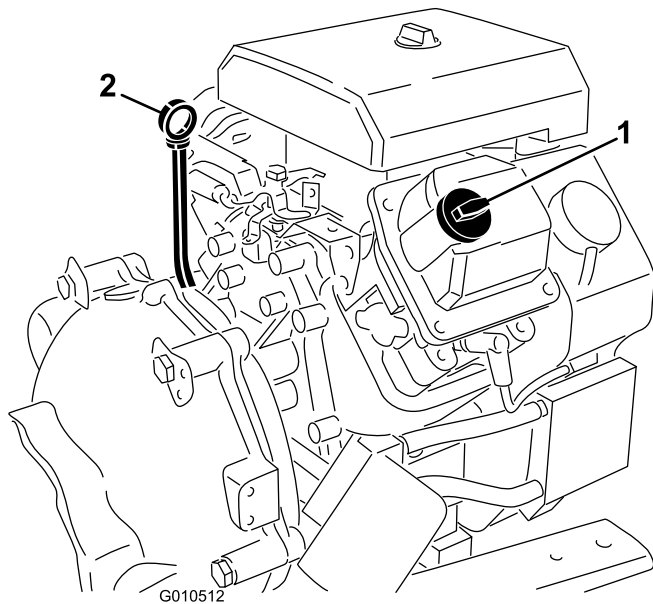

Figure 13
2. Remove the dipstick and wipe it with a clean rag (Figure 13).
5. If the oil level is low, remove the filler cap (Figure 13), and add enough oil to raise the level to the Full mark on the dipstick.